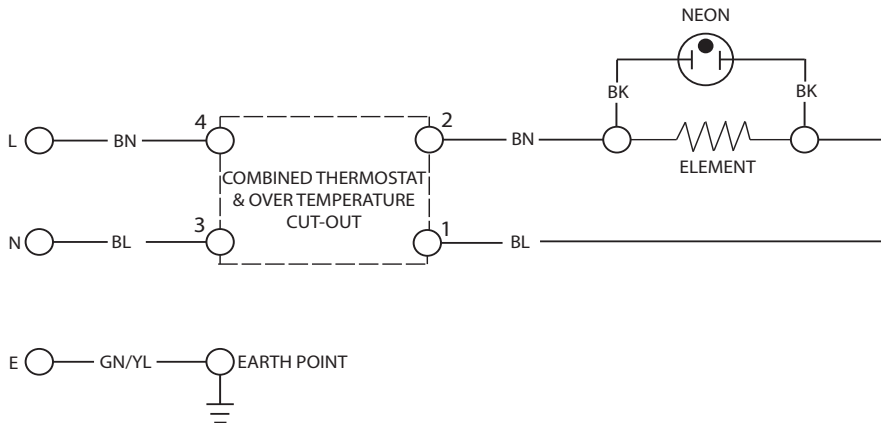

FIGURE 05: WIRING DIAGRAM
3.5.1 The unit is supplied fitted with a 0.75m 3 core 1mm² flexible cable. The electricity supply should be fused 13 Amp and be via a double pole isolating switch with a contact separation of at least 3mm in both poles. Refer to the schematic wiring diagram Figure 05 below.
| | 2. Thermal cut-out tripped | Check cut-out, if operated, reset and check thermostat operation. If necessary replace thermostat/thermal cut-out (see Wiring Diagram Fig. 05, page 8) |